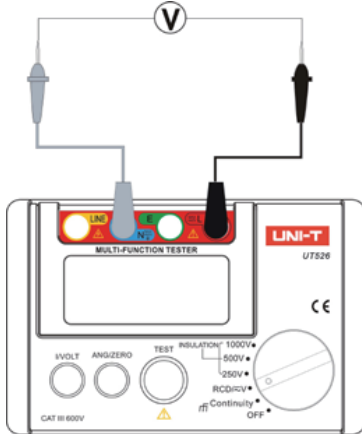

Figure 4
**X Measuring Voltage (See Figure 4)**